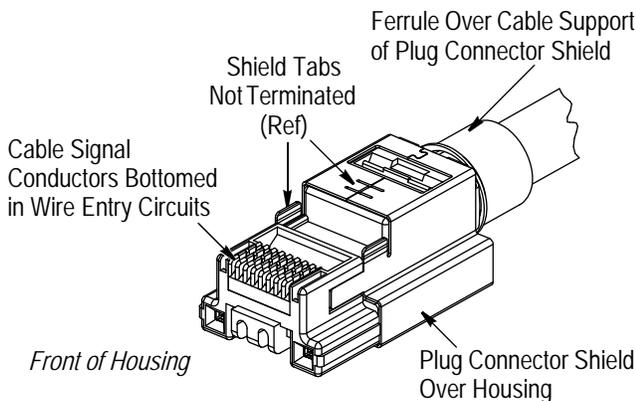

Figure 8
9. Position the plug connector shield over the housing, and the ferrule over the cable support of the plug connector shield. Refer to Figure 8.